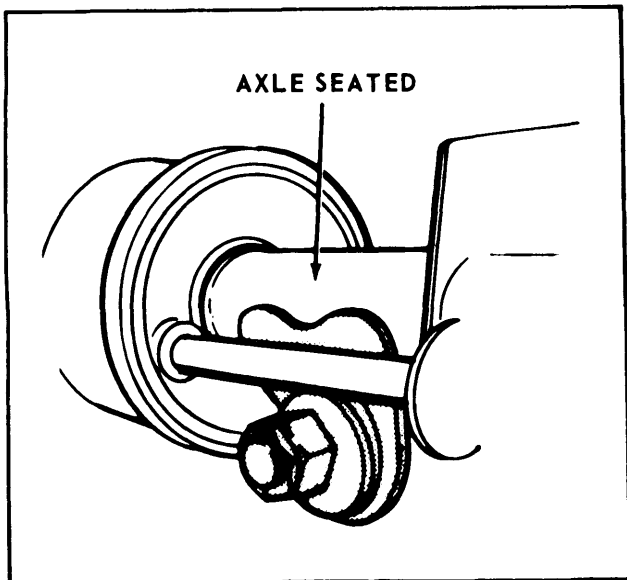
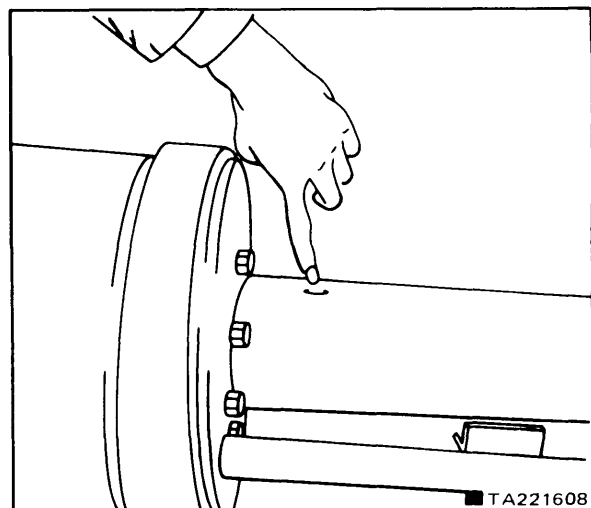

FIGURE 10-10. AXLE SEATED IN CAST BUSHING RETAINER.
FIGURE 10-11. AXLE CAMBER MARK.
- b. Install new cast retainer brackets on the ends of the walking beams with an axle seated, but not welded, in the saddle of the brackets (see figure 10-10). The camber marks should be located on top of the axle during this procedure. See figure 10-11 for camber mark location.